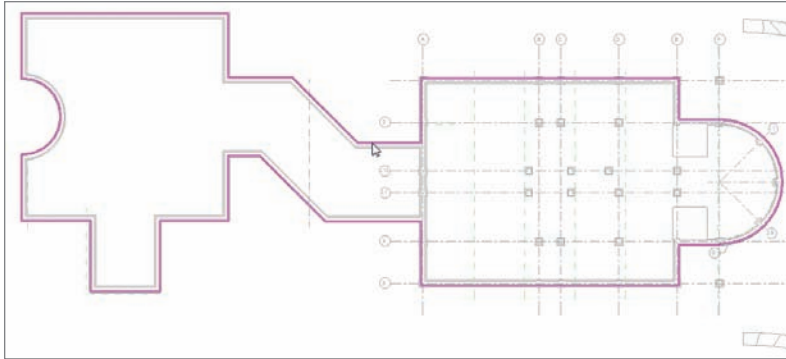

FIGURE 18.21 Place the pad to the outside of the wall.
10. Place the pad against the outside of the foundation wall underneath the entire model, as shown in Figure 18.21.